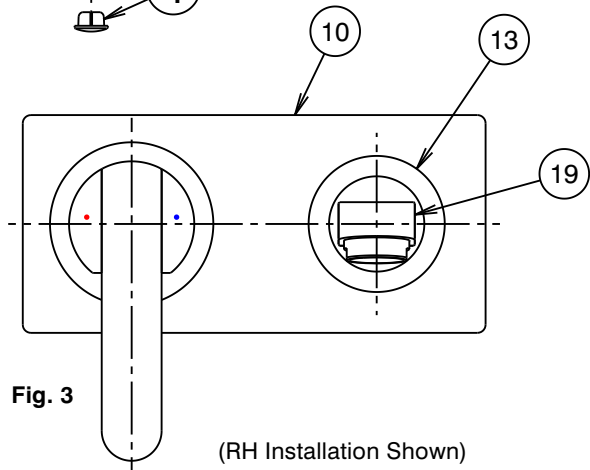

Fig. 3
- * Mixer body (8) must be installed square to wall/tile face, to ensure cover plate (10) sits flush.
- 2) Accurately mount a wall elbow (12⁺) (or equivalent) for connection to the bath outlet in the desired orientation (to the right or left of mixer body)(Fig. 3).